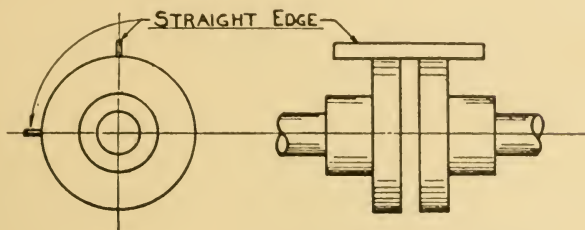

FIGURE 75
(101) In motor generator sets not having both motor and generator mounted on one solid base, it is very important that the alignment of the motor and generator shafts (assuming them to be connected by flanges as shown in Fig. 75) be carefully tested. Unless these shafts are in perfect alignment there will be vibration and perhaps noise.
The test should be made before the flanges are bolted together. (102) This may be done by laying a steel straight-edge across the face of the flanges, as shown in Fig. 75. In case the faces of the flanges are not machined flat, then a longer steel straightedge, such as a carpenter's steel square may be laid upon the coupling and aligned with one shaft by caliper measurement and if the alignment is correct the measurement from the other shaft to the opposite end of the straightedge will be the same. This must be done both on top and on the side. Be sure to have the straightedge in perfect alignment with the shaft lengthwise when making the test.